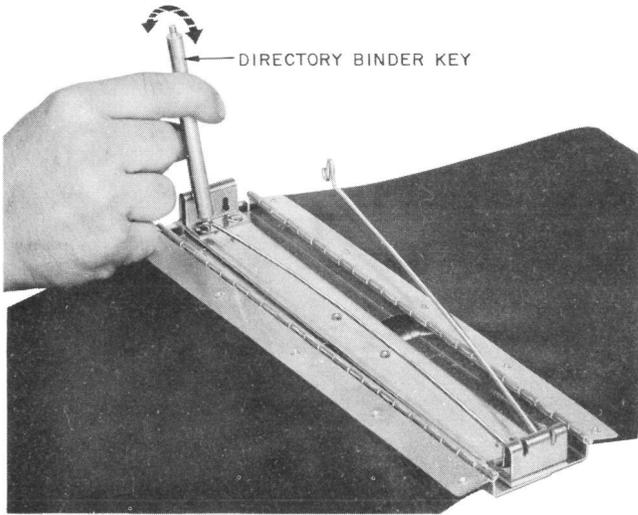
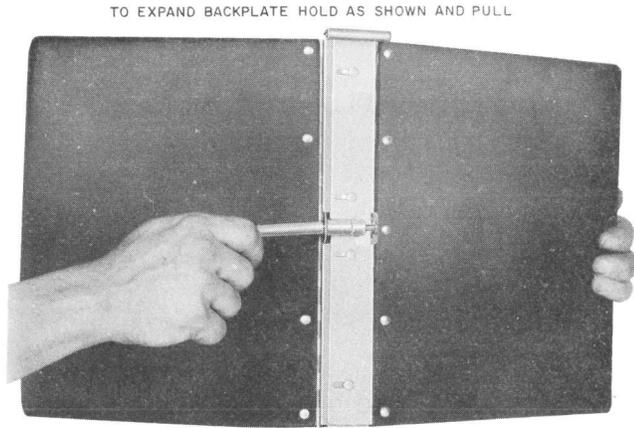

Fig. 16 — Unlatching OD Binder Rod
Fig. 17 — Unlocking Backplate — Rear View
- (1) Unlatch binder rods (Fig. 16).
- (2) Screw key into locking device, and pull to unlock adjustable backplate. LEAVE KEY IN LOCK (Fig. 17).
- (3) Open backplate to maximum width.
- (4) Place directory in binder and reduce backplate to thickness of directory.
- (5) Hold backplate against directory and remove key (this locks backplate).
- (6) Place binder rod between pages of directory to coincide with binder rod retaining slots.
- (7) Latch binder rod at top hinge into binder rod retaining slot (Fig. 16).